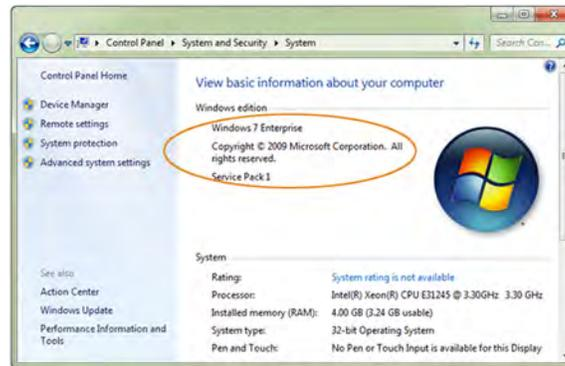

Figure 12 Microsoft Windows 7 System Information
- Step 2. If your Control Panel view is set to show icons, select **System**. If your view is in Category mode, select **System and Security > System**. The resulting window will look similar to the one shown in *Figure 12*.